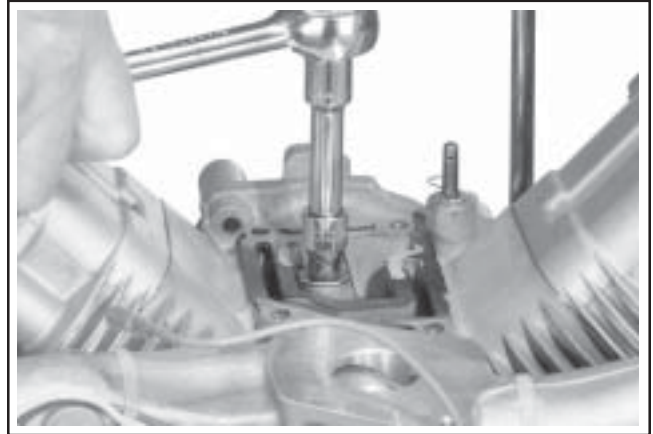

Figure 9-44. Removing Breather Reed.
7. Remove the hex flange screw, breather reed retainer and breather reed. See Figure 9-44.